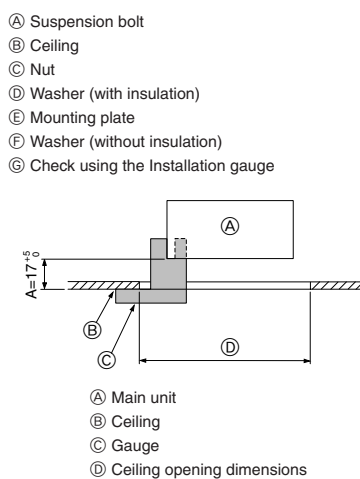

Fig. 3-7
- Make sure that step A is performed within 17-22 mm. Damage could result by failing to adhere to this range. (Fig. 3-7)